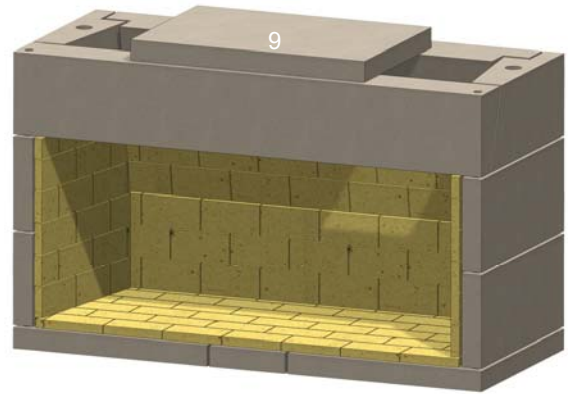

Figure 18. Pizza Oven Base Plate
I. Install pizza oven base plate (9), checking to ensure it is level. See Figure 18.